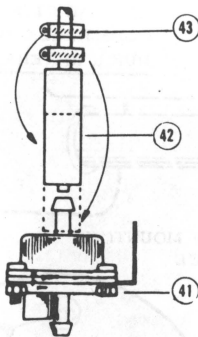

Figure 7.1
1. Select a location in the fuel line that provides proper orientation, see Figure 7.1 Be sure that the flowsensor is to be located beyond any return lines.
4. Refer to Figure 7.1: Slide two fuel line clamps (43) over each end of the metal fuel line.
5. Install the flowsensor into the fuel line by cutting the rubber fuel line (42) into two pieces. Be sure that the fuel enters the inlet side of the flowsensor, from the fuel pump and the outlet feeds the carburetor